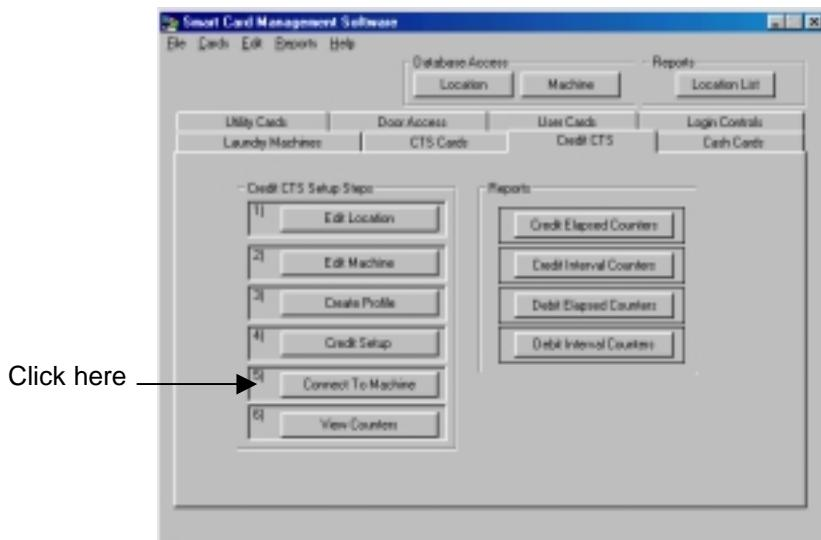

Figure 10.12 Connecting to the Machine
1. Click the Connect to Machine button in the Credit CTS tab (Figure 10.12).